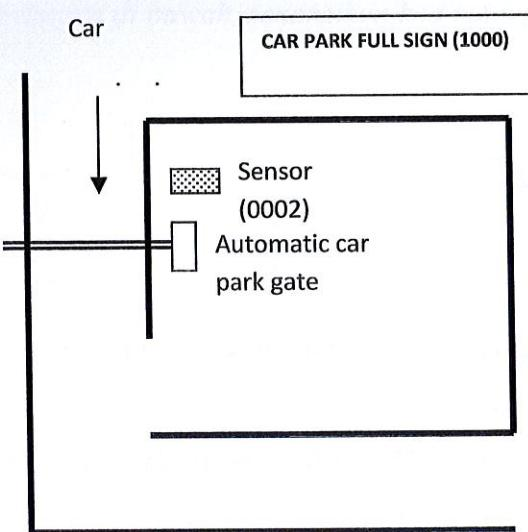

Figure A2/Rajah A2
- c) Figure A2 shows a simple car park control system that will only allow 50 cars at a parking space. Sensor (0002) will detect every time when a car enters and the automatic car park gate (1001) will open for 5 seconds to allow the car to come in. When 50 cars are detected by the detector (0002), the sign board (1002) will show 'NO ENTRY'. Based on operating stated, illustrate the ladder diagram.